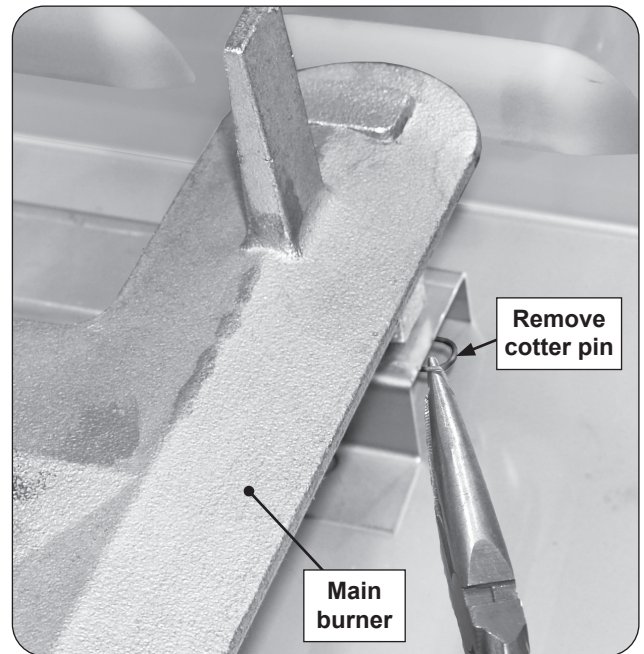

Fig. 46-1 Main burner removal
2. Locate and remove the cotter pin from the left or right rear burner anchoring peg by pulling it straight out of the cotter pin hole using fingers or needle-nose pliers. See Fig. 46-1.